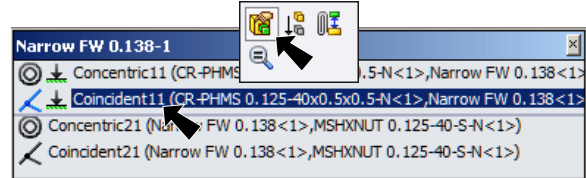

Fig. 19
Step 2. Click the **first Coincident Mate** in the View Mates window and click **Edit Feature**  in the Context toolbar, **Fig. 19**.